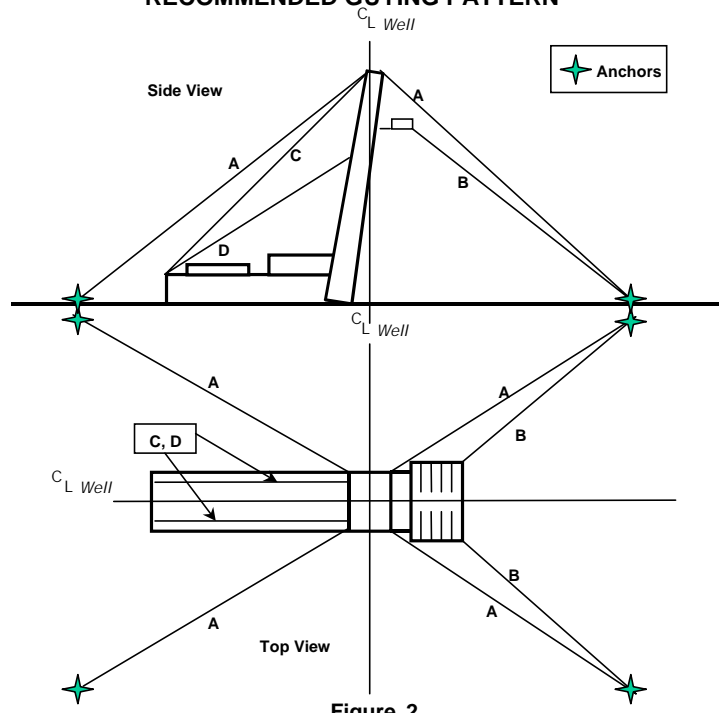

Figure 2
2. The guying pattern from **Figure 2** is recommended, **if** there are no manufacturer's recommendations, or **where** their recommendations cannot be utilized because of obstructions at the wellsite location (such as roads, pits, electric lines, etc.).
Guyline (See Figure 2 for Guylines Locations)	Recommended Size